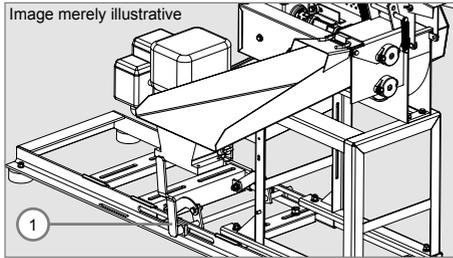

Figure 6
- ✓ The engine shall only be turned on if the belt stretcher lever (1) is in the relief position, that is, without tensioning the belt, as shown in Figure 6.